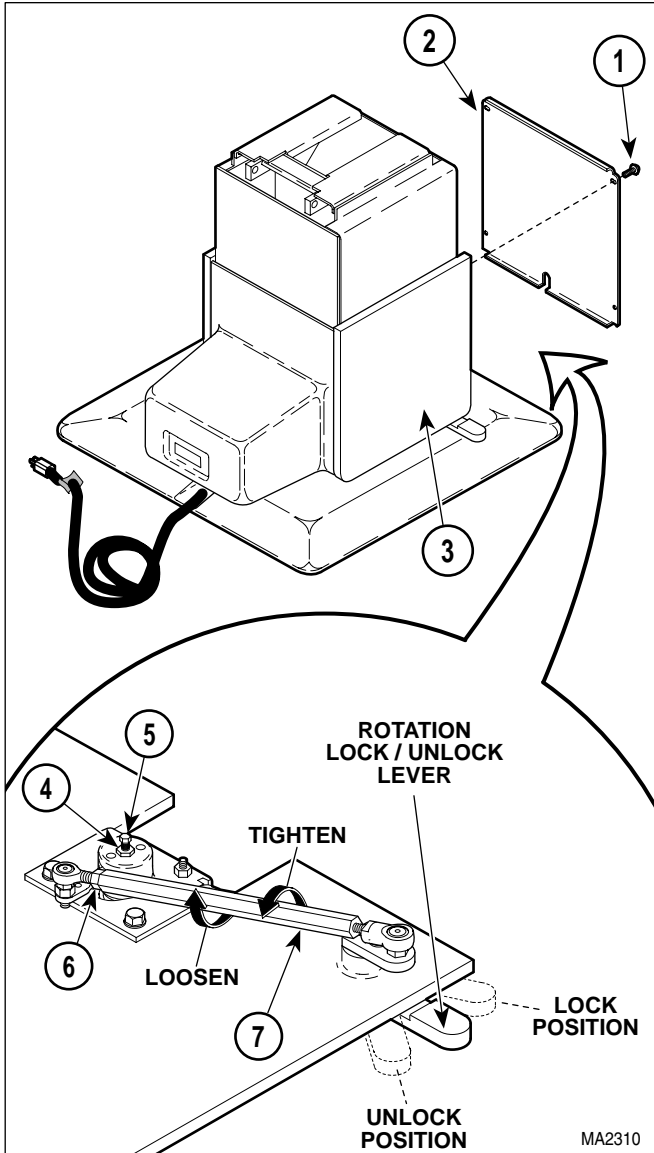

Figure 4-35. Brake Adjustment
- (1) Raise TABLE UP function all the way up.
- (2) Unplug table power cord from outlet.
- (3) Remove four screws (1, Figure 4-35) and front outer shroud (2) from left and right hand outer shrouds (3).
- (4) Move ROTATION LOCK / UNLOCK lever to UNLOCK.
- (5) Loosen nut (4) fully.